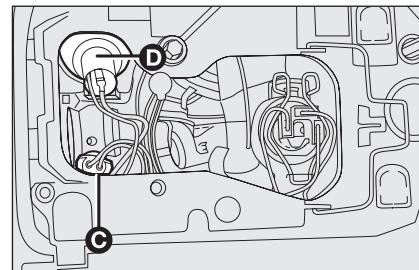

fig. 22
- turn the bulb-holder **C-fig. 22** and remove it (it is pressure-fitted);
- turn the bulb-holder **D-fig. 22** and remove it (it is pressure-fitted);